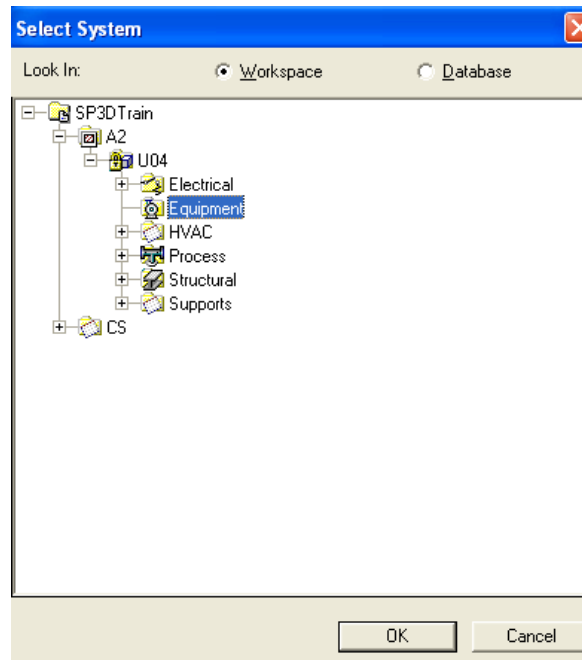

Figure 20: Select System Dialog Box
7. Select **A2 > U04 > Equipment** system as shown in Figure 20 to indicate where the object will be placed. Then, click **OK**.